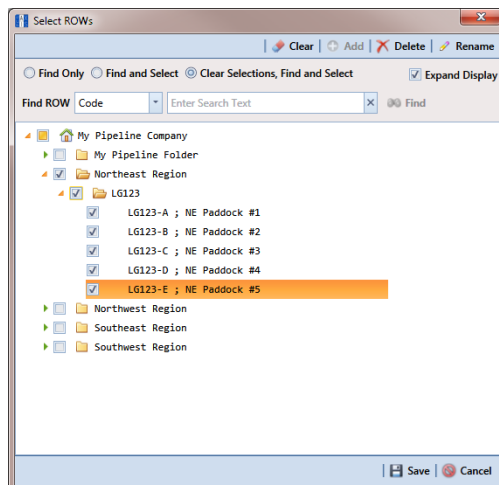

Figure 6-44. Select ROWs
- 1 Click the **Select ROWs** button  to open the *Select ROWs* window (Figure 6-44). Select the pipeline segment(s) with the facilities you want to work with, then click  **Save** to close the window.
- 1 Click the **Select ROWs** button  to open the *Select ROWs* window (Figure 6-44, page 210). Select the pipeline segment(s) with the facilities you want to work with, then click  **Save** to close the window.